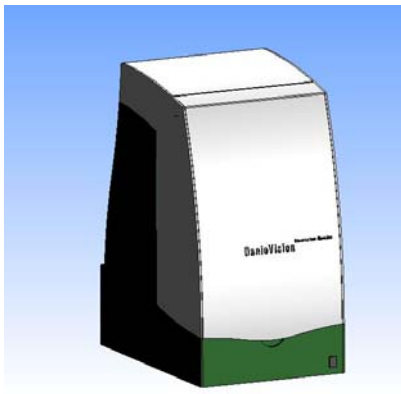

Figure 1 *The DanioVision Observation Chamber DVOC-0041.*
See Figure 1. This chamber contains a transparent holder with backlight that fits an ANSI SBS compatible multi-well microtiter plate, infrared (IR) and white light sources (underneath the microtiter plate), and a Gigabit Ethernet (GigE Vision) video camera. The optical design provides a stable and undistorted top view of each well and a controlled and constant environment within the observation chamber.